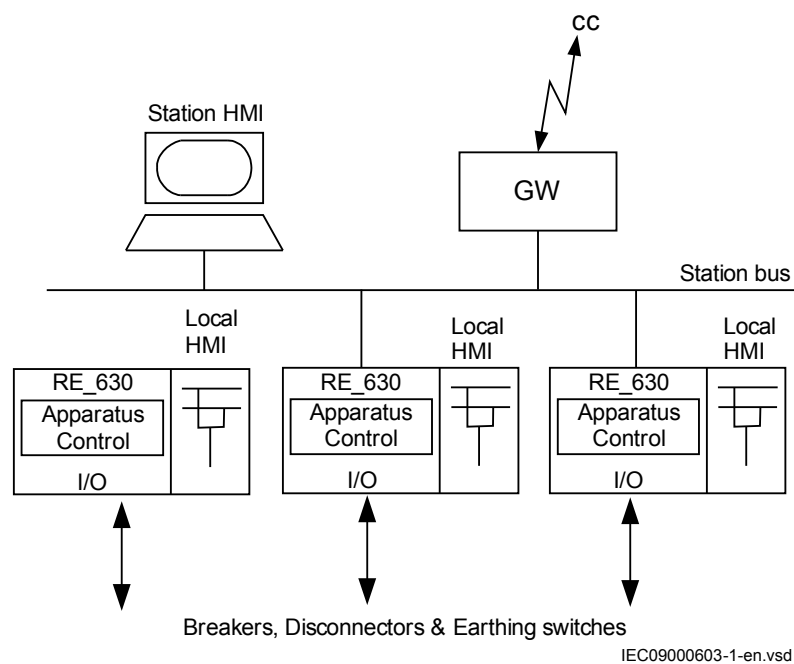

Figure 44: Overview of the apparatus control function
Figure 44 provides an overview from what places the apparatus control function receives commands. Commands to an apparatus can be initiated from the Control Center (CC), the station HMI or the local HMI on the IED front.